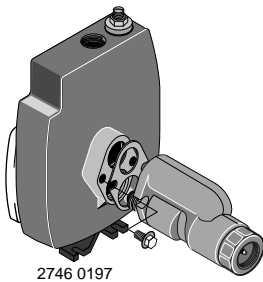

Figure 3: Mount Ejector – Shallow Well
- Step 2. Install ejector kit (models with “J” suffix include complete ejector assembly; for other models, purchase ejector kit FP4855, sold separately). Follow the instructions provided with the kit. Be sure to align the venturi with the lower hole on the front of the pump (see Figure 3).
- Step 1. Install ejector kit (models with "J" suffix include complete ejector assembly; for other models, purchase ejector kit FP4855, sold separately). Follow the instructions provided with the kit. Align the venturi with the lower hole on the front of the pump (see Figure 3).